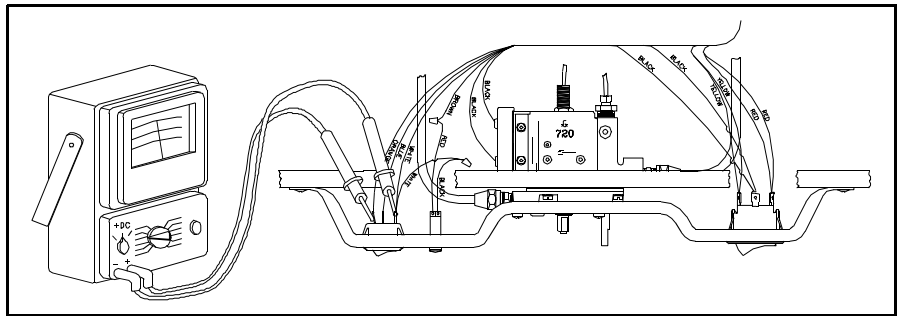

Figure 3.20 12 Volt Check at Orange and White Terminals
- Check for 12 volts at the outlet of the Ignitor switch, making sure the switch is on. If 12 volts is not present between the DC negative and outlet wire, as shown in Figure 3.20, replace the switch. If 12 Volts is present, then proceed to Step 6.